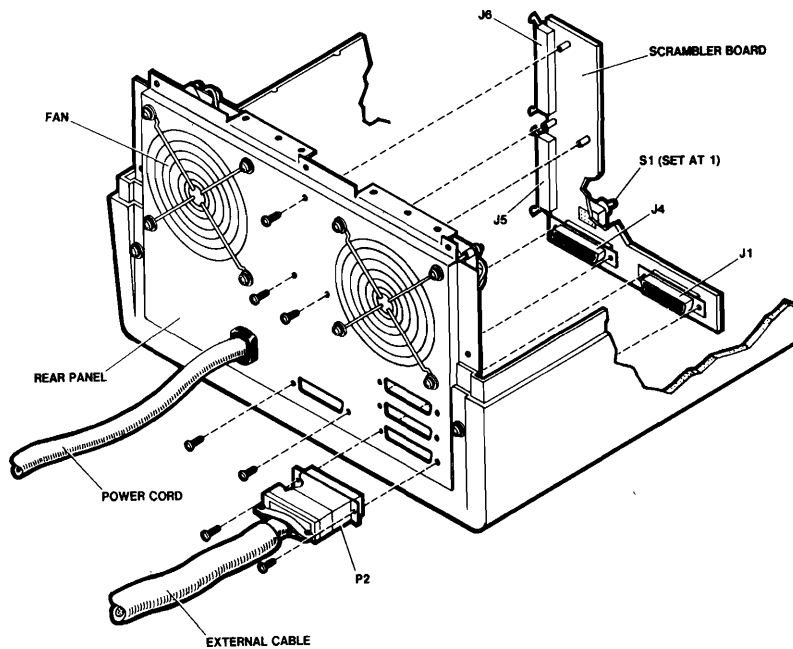

Figure 4-8. Scrambler Board Removal
1. Refer to figure 4-8 and disconnect the 50 pin ribbon cable P1 from the scrambler board connector J6.
1. Refer to figure 4-8. and guide the scrambler board in between the ac filter cover and rear panel, aligning J1 with slot J1 and J4 with slot J4 on the panel.